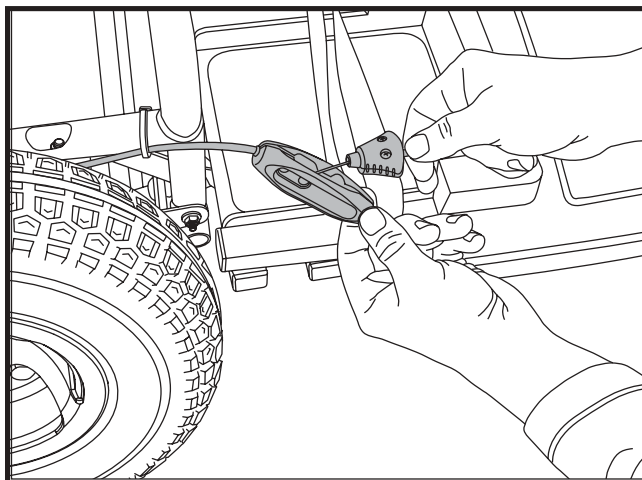

Figure 24. Handbrake Cable Release
4. Separate the brake cable from the cable clamp located inside the quick disconnect body. See figure 24.